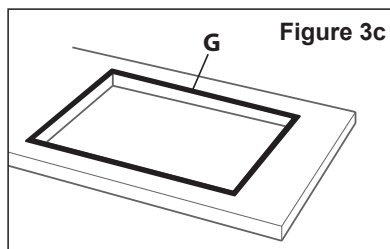

Figure 3c
- **Models DEGHBG60, DEGHBG90:** stretch gasket “G” over the edge of the hole made, being careful to overlay the junction edges (fig. 3c).